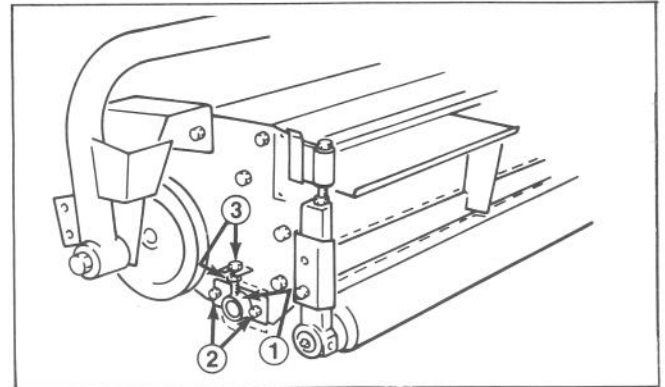

Figure 9
4. Loosen (2) carriage bolts on bedbar adjuster (Fig. 9).
5. Adjust nuts to move bedbar adjuster up or down until paper is pinched along entire bedknife surface, when bedknife adjustment knob is adjusted to no more than two clicks beyond first contact of reel bedknife (Fig. 9).